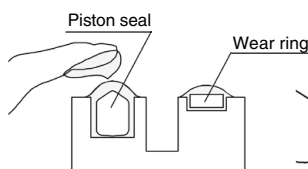
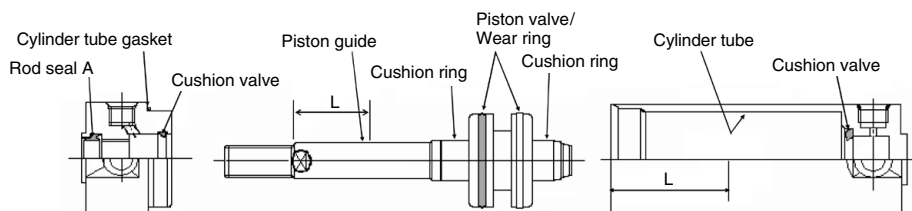

Fig. 7 Piston seal
Fig. 9 Grease application points $L = \frac{\text{STROKE}}{2}$ or 100 mm and more
- ③⑨ Piston seal: Rub grease into the seal groove and outer circumference of the seal. (Fig. 7)
- ③⑩ Cylinder tube gasket: Lightly apply grease.
- Cylinder component parts: Apply grease to each component parts of the cylinder in Fig. 9.